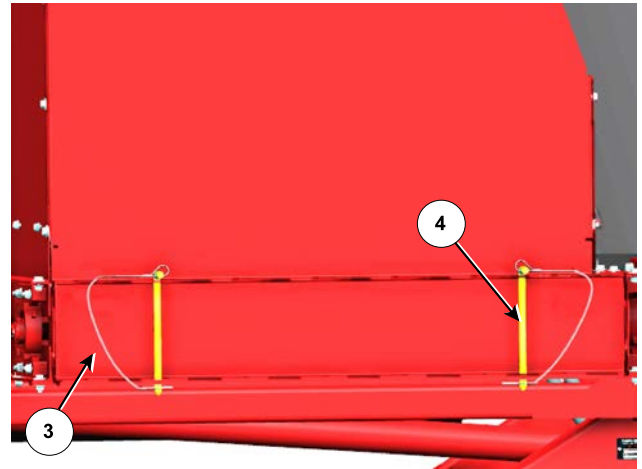

Figure 11: Install the Conveyor Clean Out Door ^{223169C}
15. Install the conveyor clean out door (3), see *Figure 11*.
- Fasten in place with the shield pin retainers (4).